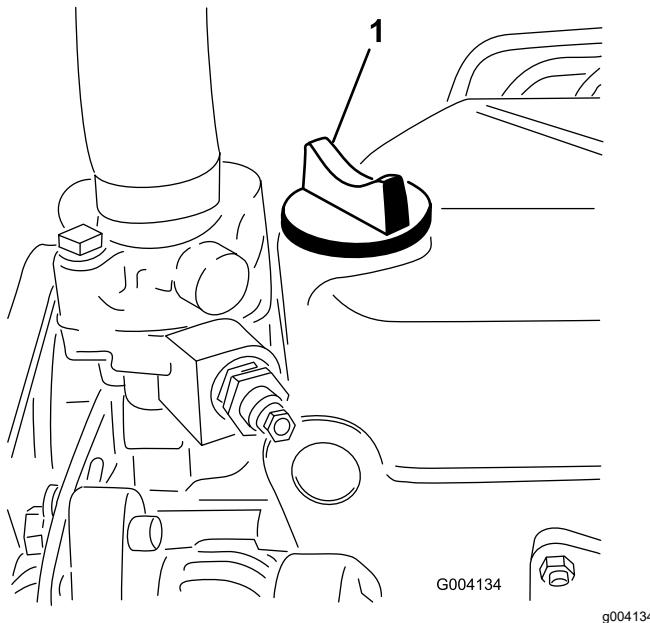

Figure 25
5. If the oil level is below the Full mark, remove the fill cap (Figure 25) and add oil until the level reaches the Full mark on the dipstick. **Do not overfill.**